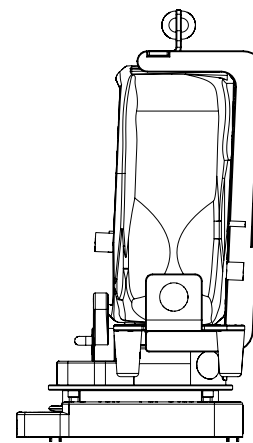

Figure 15: Installing the Surface Converter Pro on the Standard Surface Base
4. Align and insert the standard bottom disc located under the Surface Converter Pro in the Standard Surface Base horizontally using the front handle until it locks (Figure 15).